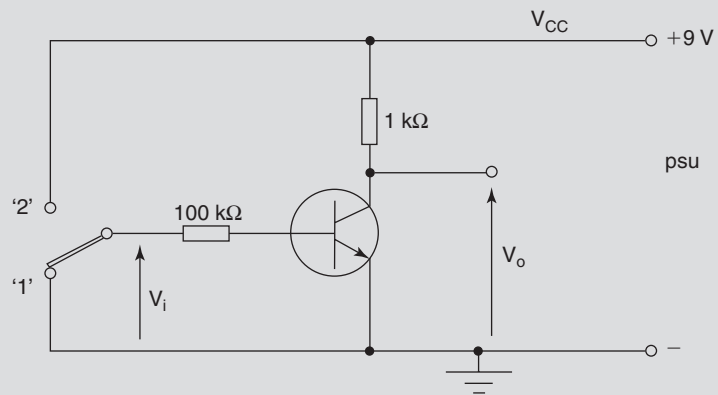

Fig. 32
- 1 Connect the circuit of Fig. 32 and set the psu output to 9V.